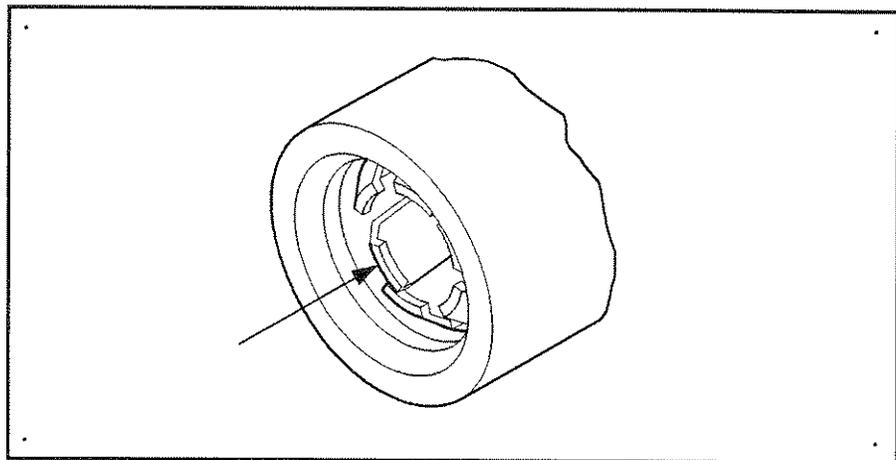

Figure A-4. Finger Bent In or Crushed
- The inner contact has one or more fingers bent inward or crushed, preventing proper contact to the male pin (see Figure A-4).